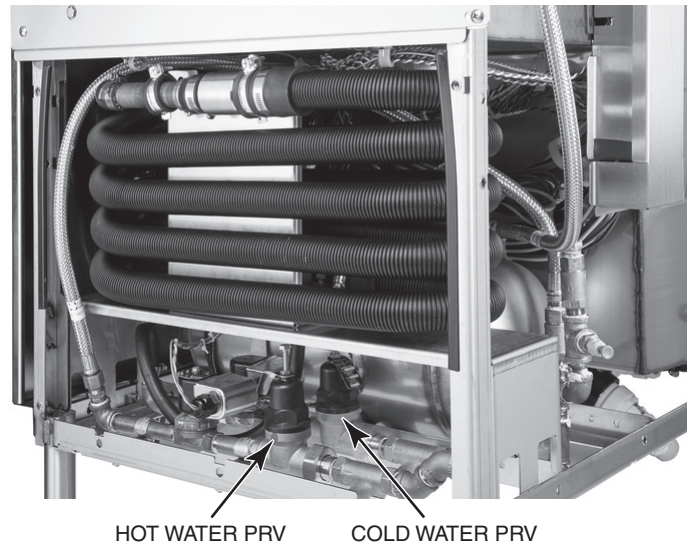

Fig. 17
16. While final rinse water is running, adjust the final rinse cold water pressure regulating valve (Fig. 17) until the final rinse pressure gauge reads 20 ± 5 PSI.